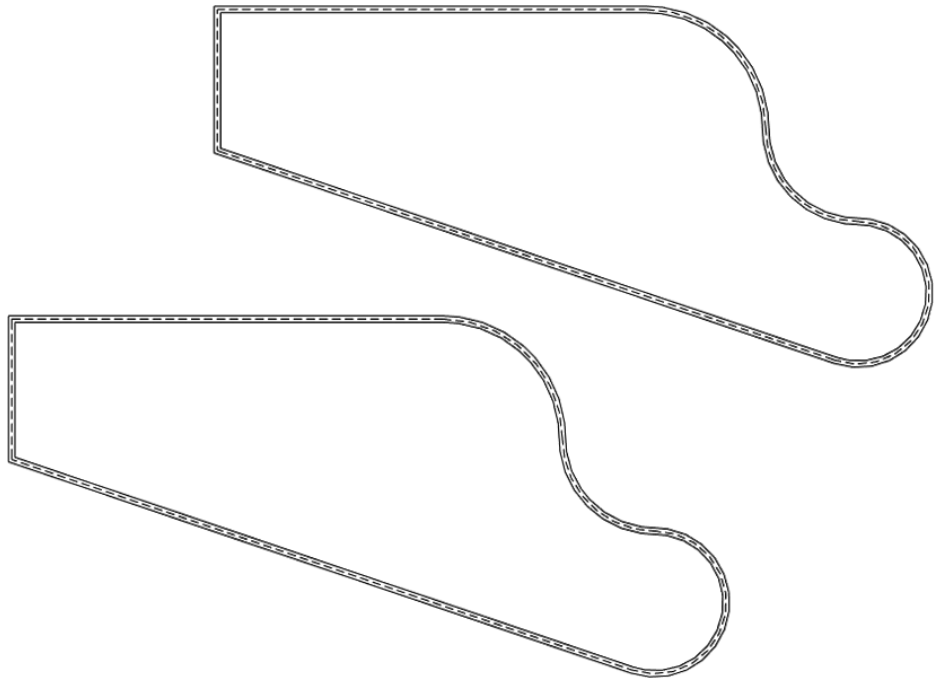

FIGURE 2.8 Results of the Picking Walls exercise
4. On the second set of lines, use the chain-select method to place all the wall segments at once. Hover your mouse pointer over one of the line segments, and press the Tab key once. When the chain of lines is highlighted, click the mouse button to place the complete chain of walls. Your results should look like the plan shown in Figure 2.8.